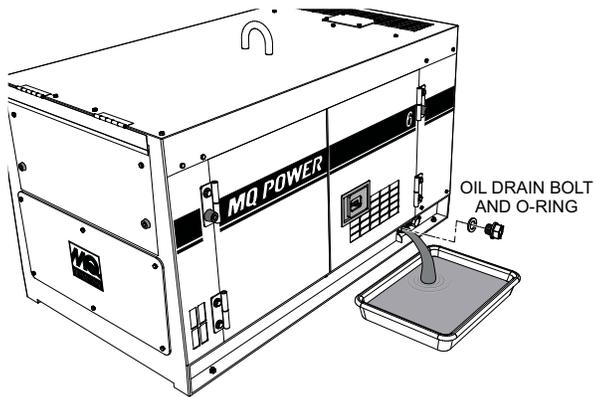

Figure 27. Engine Oil Drain Plug
1. Remove engine oil drain plug located at the bottom of the generator enclosure (Figure 27) and drain oil from crankcase. For best results drain oil while engine is warm. Reinstall oil drain plug, and add engine oil as specified in Table 6. Crankcase oil capacity is 5.39 quarts (5.1 liters).